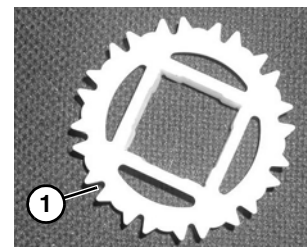

Figure 15
NOTE: The cogged drive teeth on the belt should engage the deep grooves of the sprocket (**Figure 15, item 1**).